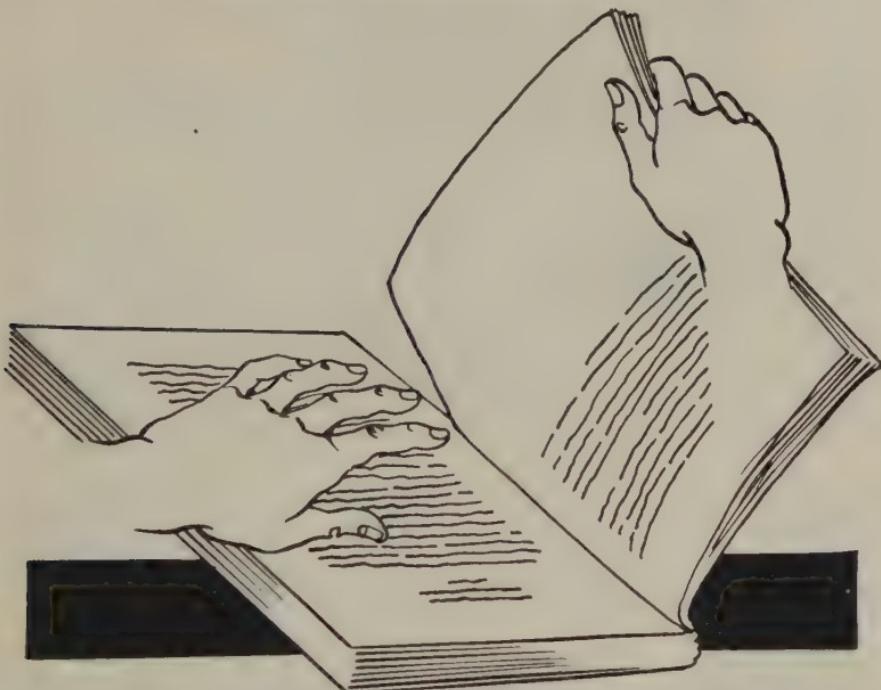

FIG. 159—SEPARATING BOOK INTO ORIGINAL SECTIONS
7. Find the end of the first section and the beginning of the second. Hold the entire first section in the right hand, the book to the table top with the left; work the first section gradually away from the book, gently "peeling" loose if any glue remaining still holds. (Fig. 159.)